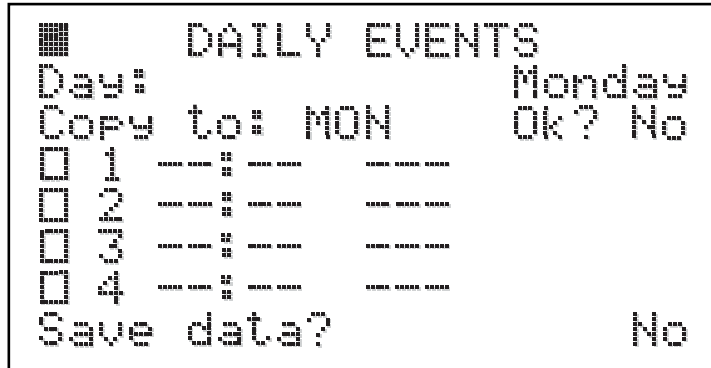

Figure 15
4.3.3.2 Daily Events (Figure 15)